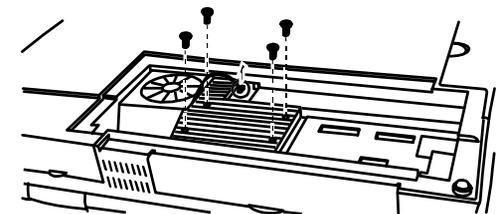

Figure 7-17. Removing the Heat Sink
2. ATTACH THE HEAT SINK TO CPU AND SECURE WITH FOUR SCREWS. RECONNECT THE FAN POWER CORD. (ref fig 7-17)
2. TEMPORARILY REMOVE THE HEAT SINK BY UNPLUGGING THE FAN POWER CORD AND UNFASTENING FOUR SCREWS. (FIG 7-17)